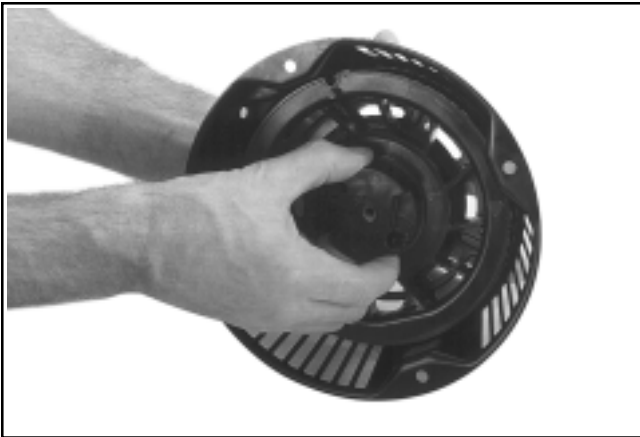

Figure 7-10. Assembling Starter Pulley to Housing.
3. Carefully install pulley into recoil housing, engaging the spring hook with starter housing tab. See Figure 7-10.